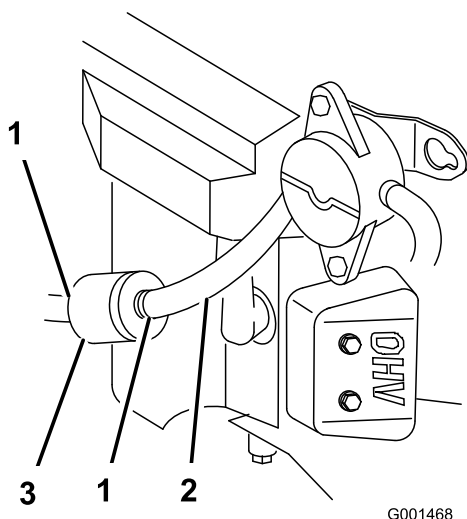

Figure 52
2. Clean around the fuel cap to prevent debris from getting into the fuel tank (Figure 52).
4. Squeeze the ends of the hose clamps together and slide them away from the filter (Figure 52).